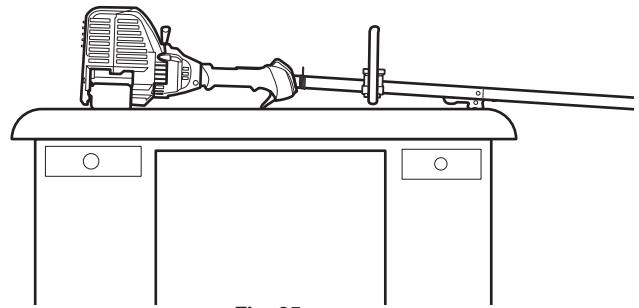

Fig. 25
2. Set the unit on a flat, level surface, such as a workbench or table. The cutting head shield should hang over the edge so that the engine is level (Fig. 25).